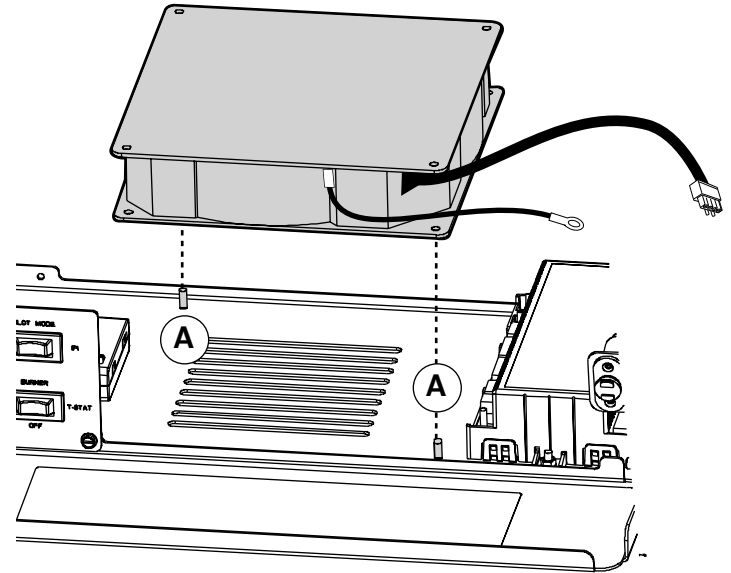

Figure 11.6.
1. Orient the blower housing with the outlet to the rear and the air inlet facing down. Engage the housing with the two pegs, (A) in the center of the cabinet floor. Fig. 11.6.